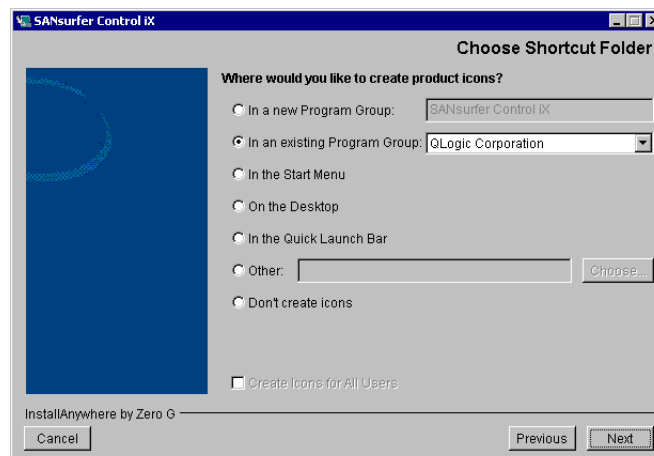

Figure 6-3. Choose Shortcut Folder Dialog Box
5. The **Choose Shortcut Folder** dialog box displays (see figure 6-3). Use the radio buttons to make your selection. Click **Next**.